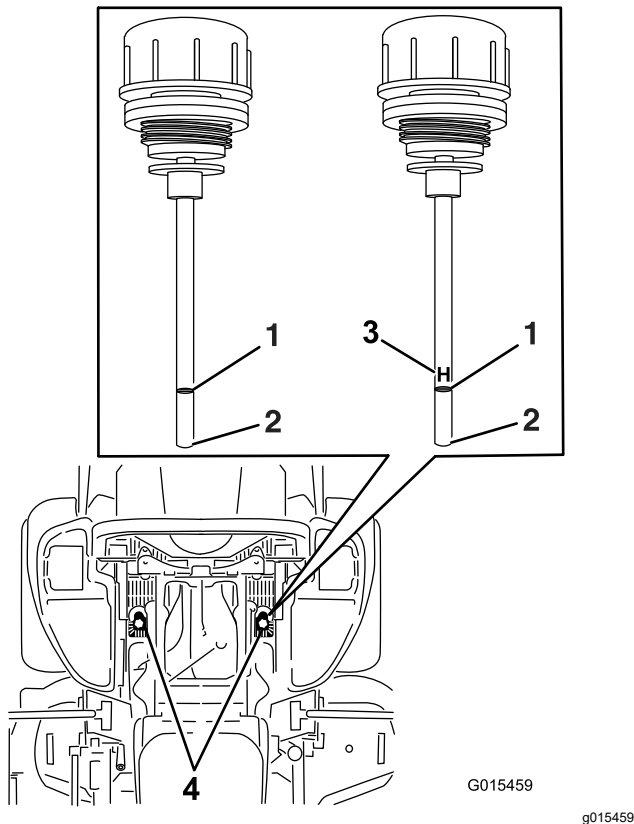

Figure 110
5. Clean the area around the dipsticks of hydraulic-system reservoirs (Figure 110).
6. Remove 1 dipstick from the hydraulic reservoir (Figure 110).
8. Remove the dipstick and look at the end (Figure 110).